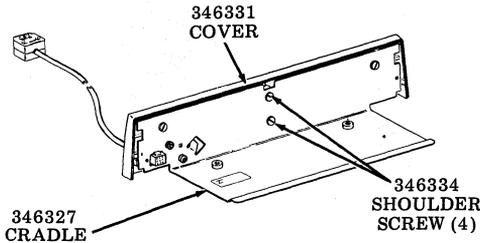

Fig. 5—40BSE201 Disassembly
2.08 Disassemble the 346331 cover from the 346327 cradle by removing the four (4) 346334 shoulder screws. Discard the cover but retain the shoulder screws. See Fig. 5.